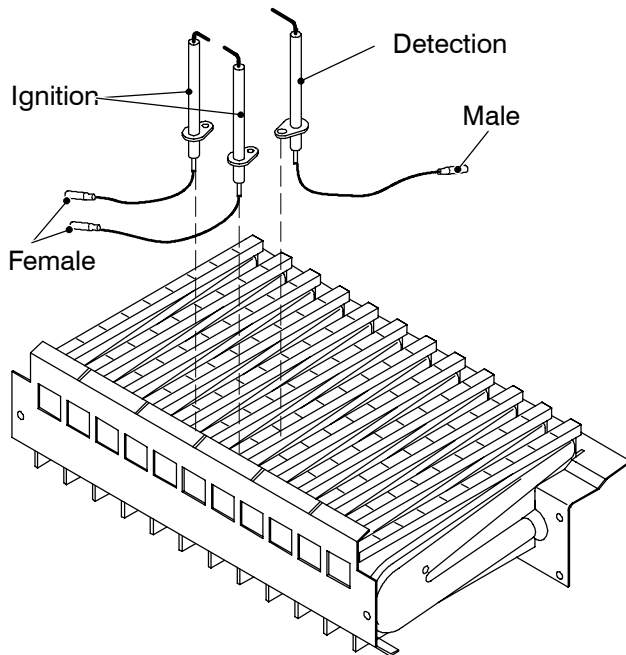

Fig. 84
- 7 Assemble the electrodes carrying out the removal operation in reverse order. Refer to Fig. 84 in order to recognise the electrodes and to correctly connect the wiring.